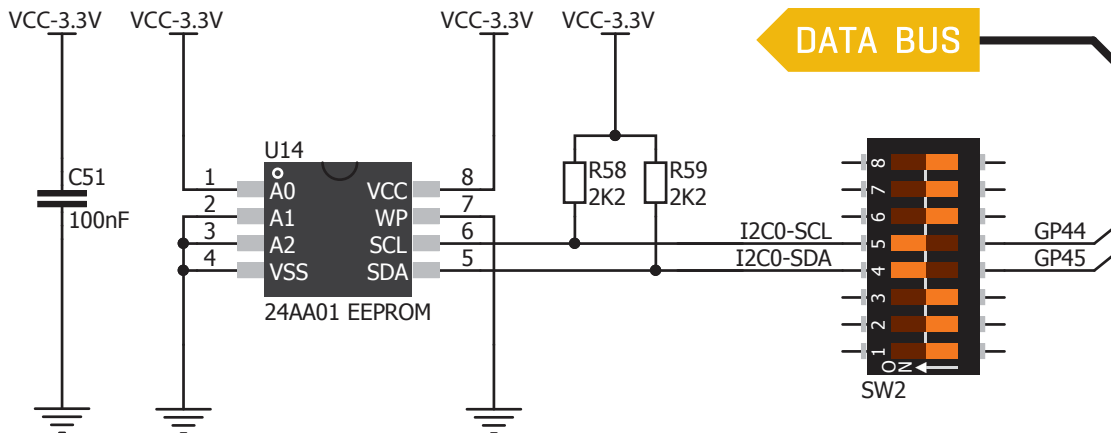

Figure 25-1: Schematic of I2C EEPROM module
**Piezoelectricity** is the charge that accumulates in certain solid materials in response to mechanical pressure. It works in reverse too: providing a charge to piezoelectric materials causes them to physically deform. One of the most widely used applications of piezoelectricity is the production of sound generators, called piezo buzzers. EasyFT90x v7 for comes with a piezo buzzer connected to **GP55** microcontroller pin. Connection is established using **SW6.6** DIP switch. Buzzer is driven by transistor **Q1** (Figure 25-1). Microcontrollers can create sound by generating a PWM [Pulse Width Modulated] signal – a **square wave signal**, which is nothing more than a sequence of logic zeros and ones. You can generate a PWM signal using a hardware capture-compare module, which is usually available in most microcontrollers, or by writing a custom software which emulates the desired signal waveform. Supported sound frequencies of the duty cycle. You can generate PWM signal using hardware capture-compare module, which is usually available in most microcontrollers, or by writing a custom software which emulates the desired signal waveform.